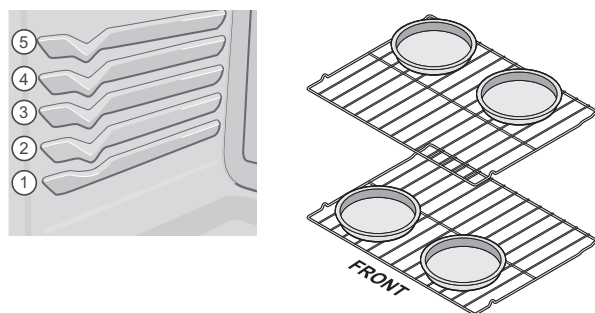

Figure 20: Rack positions (L) and pan spacing (R) recommendations
- For best results when baking cakes using two oven racks, place racks in positions 2 and 4. When baking using two oven racks, position bakeware as shown in Figure 20. Allow at least 2 inches (5 cm) of space between bakeware for proper air circulation.